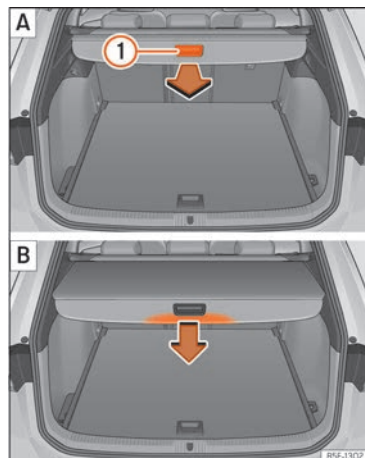

Fig. 125 In the luggage compartment: unrolling and rolling up the shelf.
- Pull evenly on the rear shelf using its handle » **Fig. 125** **(1)** **(A)** in a backwards direction until it audibly clicks into place.
- Press on the handle of the rear shelf in the direction of the arrow to release it » **Fig. 125** **(B)**.